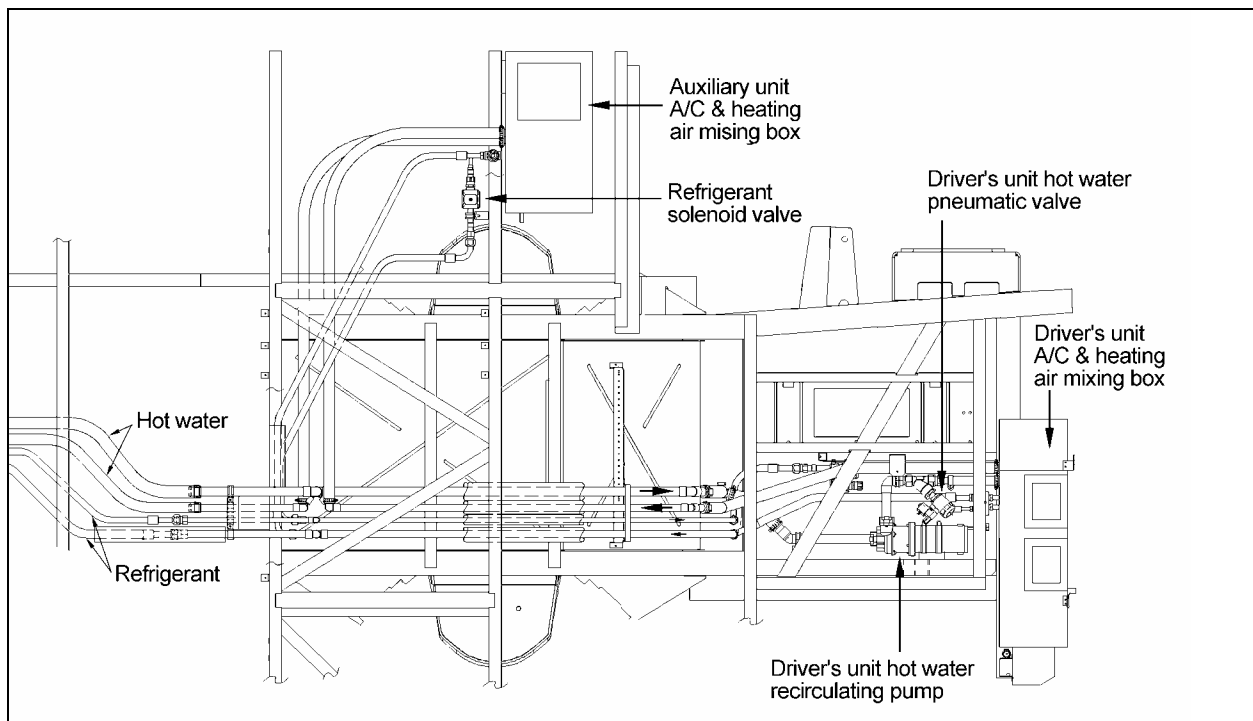

FIGURE 49: SMALL HVAC SYSTEM - DRIVER'S AND AUXILIARY UNIT
2. Locate the normally open hot water pneumatic valve on the ceiling of the spare wheel compartment (Figure 49), disconnect its wiring connector, then connect a 24-volt external power source, using jumper cables, to close valve.